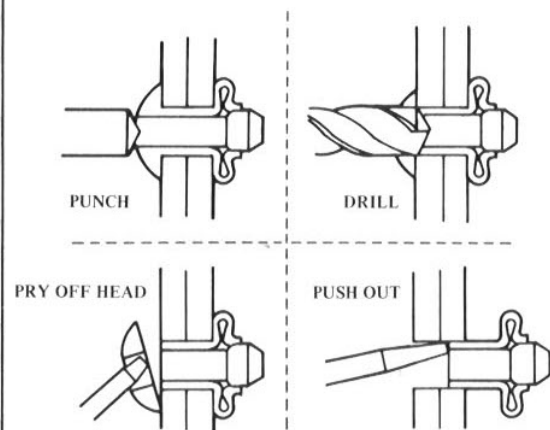

Fig. 25
- Push or drill out the remainder of the rivet. Be careful not to enlarge the hole in the structure. (See Fig. 25.)
(See Fig. 25 p.3-19)